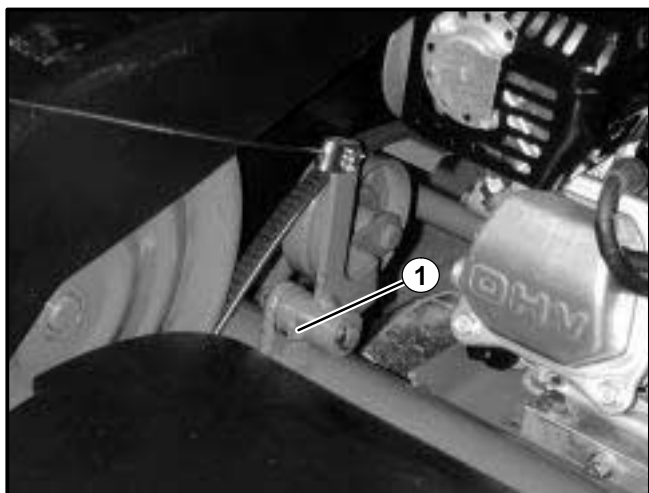

Figure 13
4. Lubricate the clutch pivot prior to each aerating season or as needed. See Figure 13.